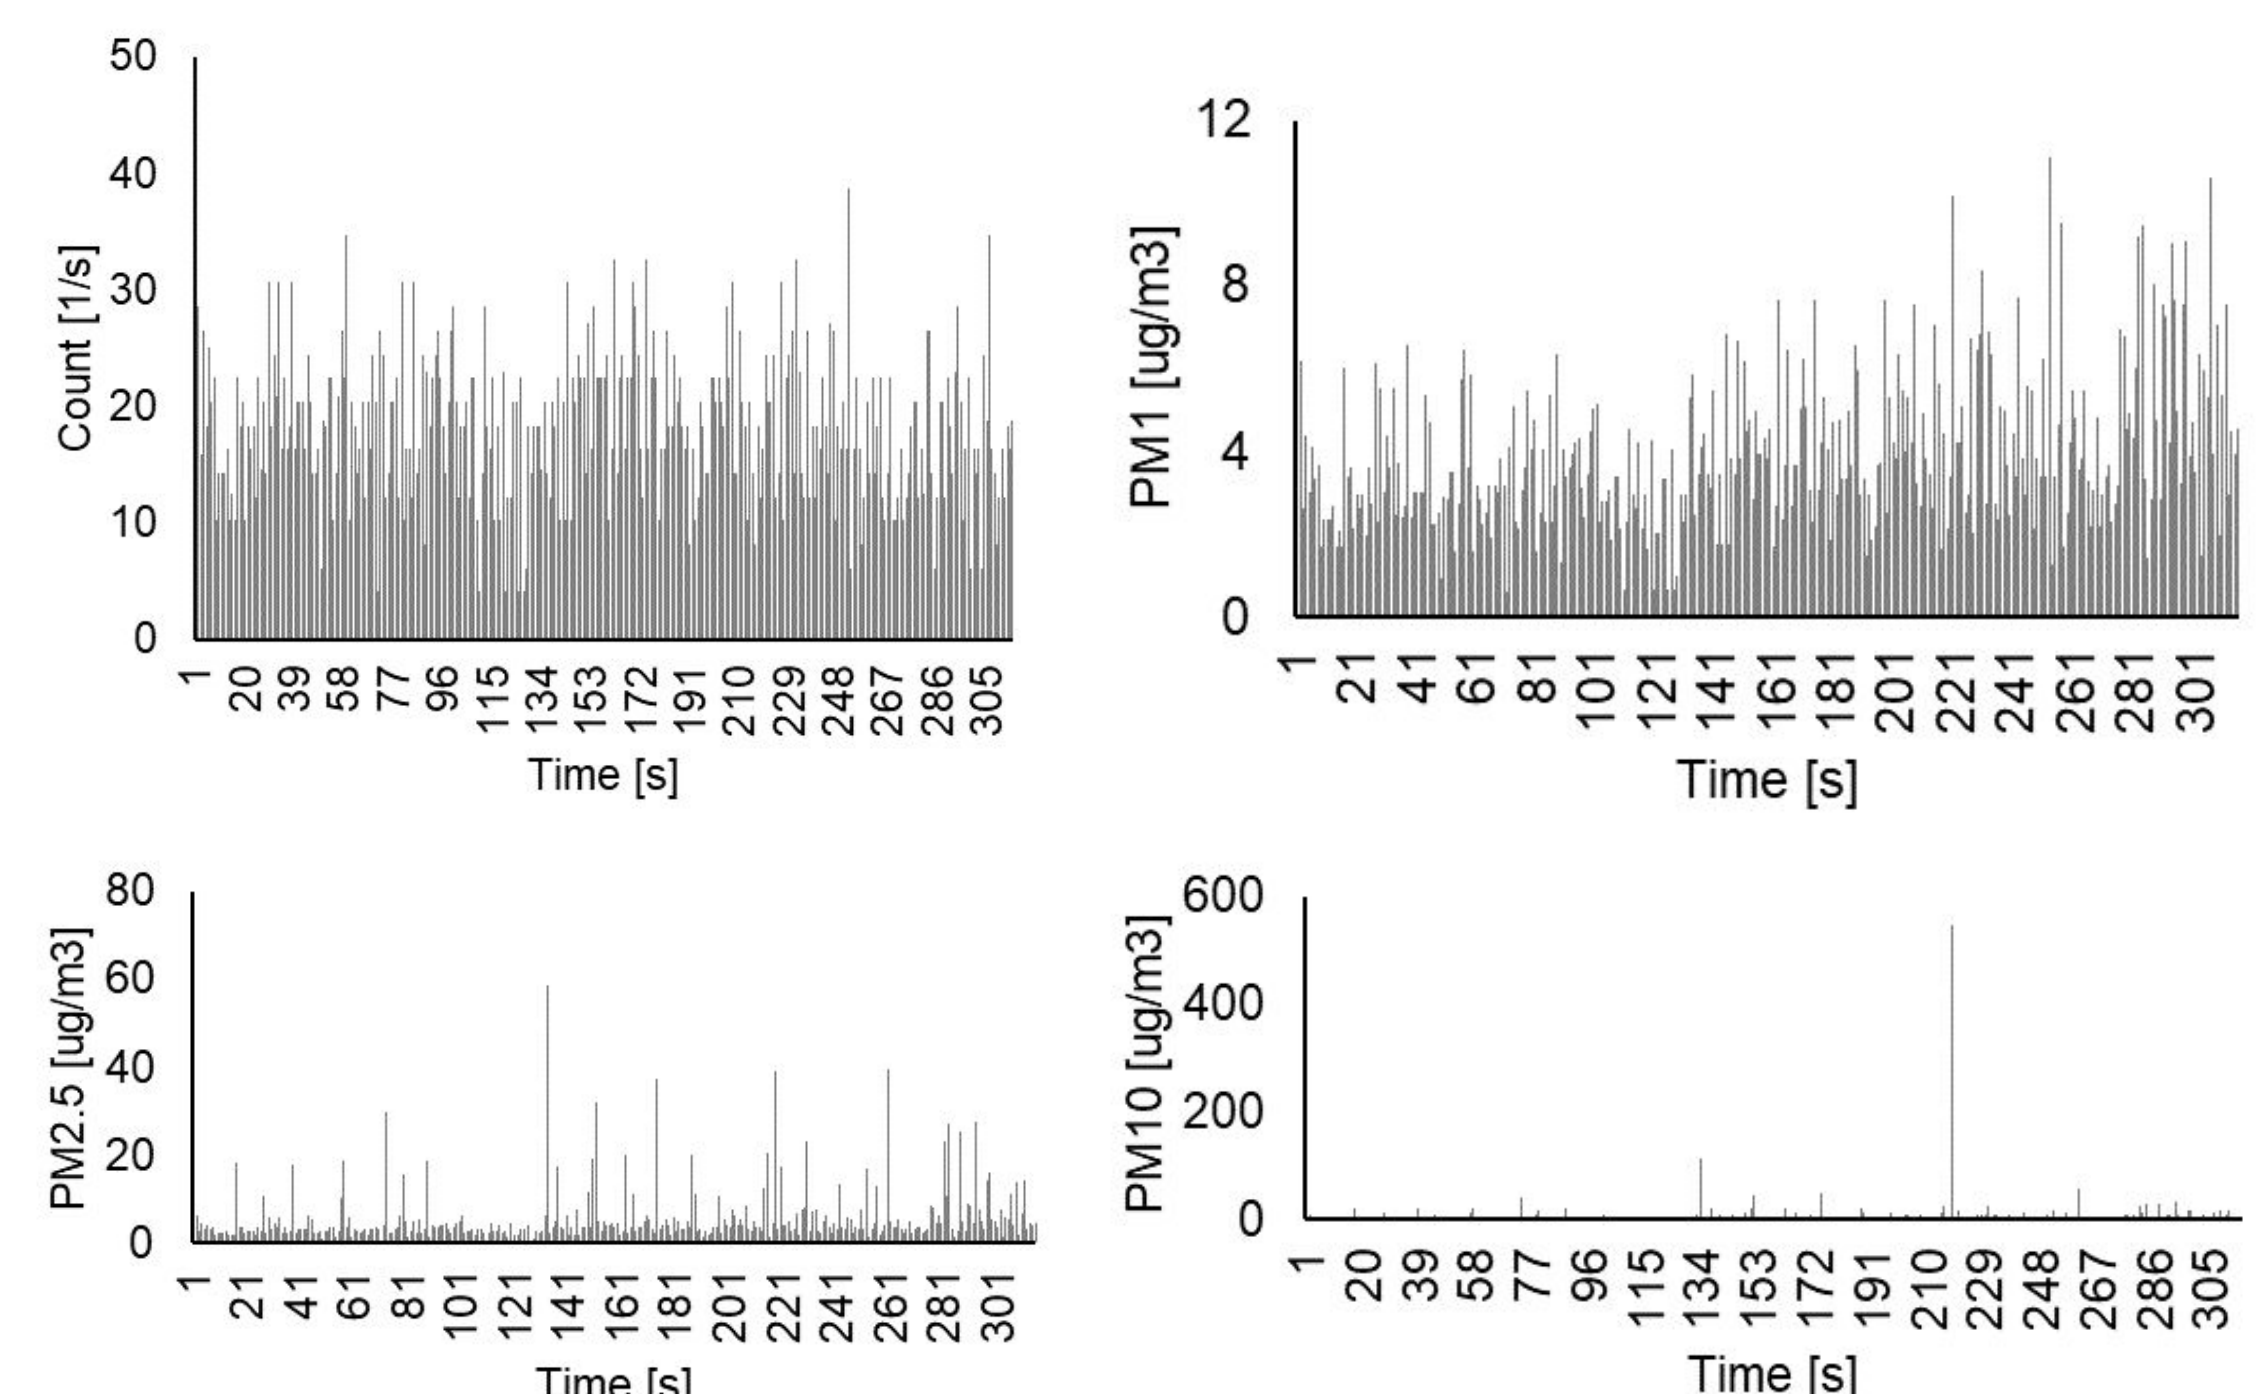

Figure 5: The particulate data sampled from candle.
– Figure 5 displays the changes in particulate matter (PM₁, PM_{2.5}, PM₁₀) concentrations over time recorded by OPC-N3 with noticeable differences in their concentration trends.